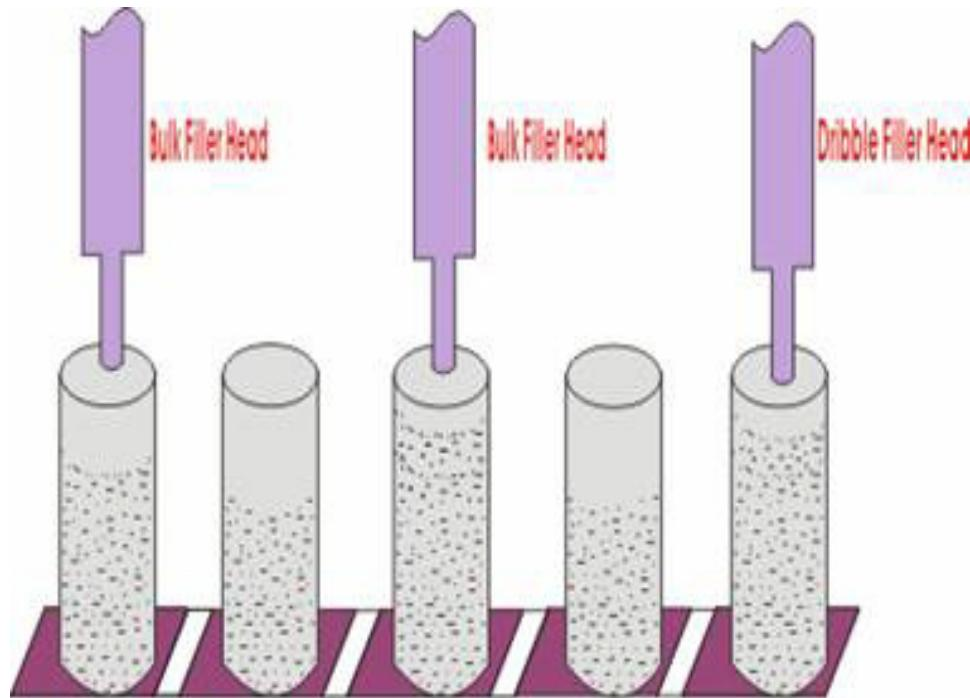

**Figure 20.29 Gross weight filler**
- In gross weight filling (Figure 20.29), the product is weighed inside the container as it is filled, and the scale operates a signaling device that operates the filler.